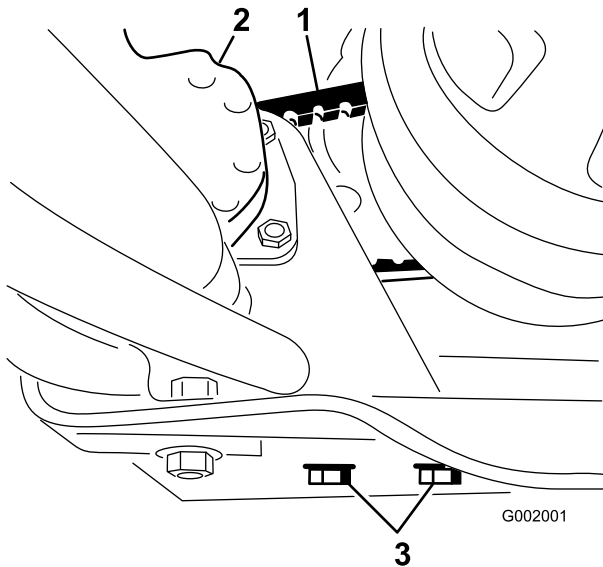

Figure 63
2. Loosen the steering pump mounting bolts (Figure 63).